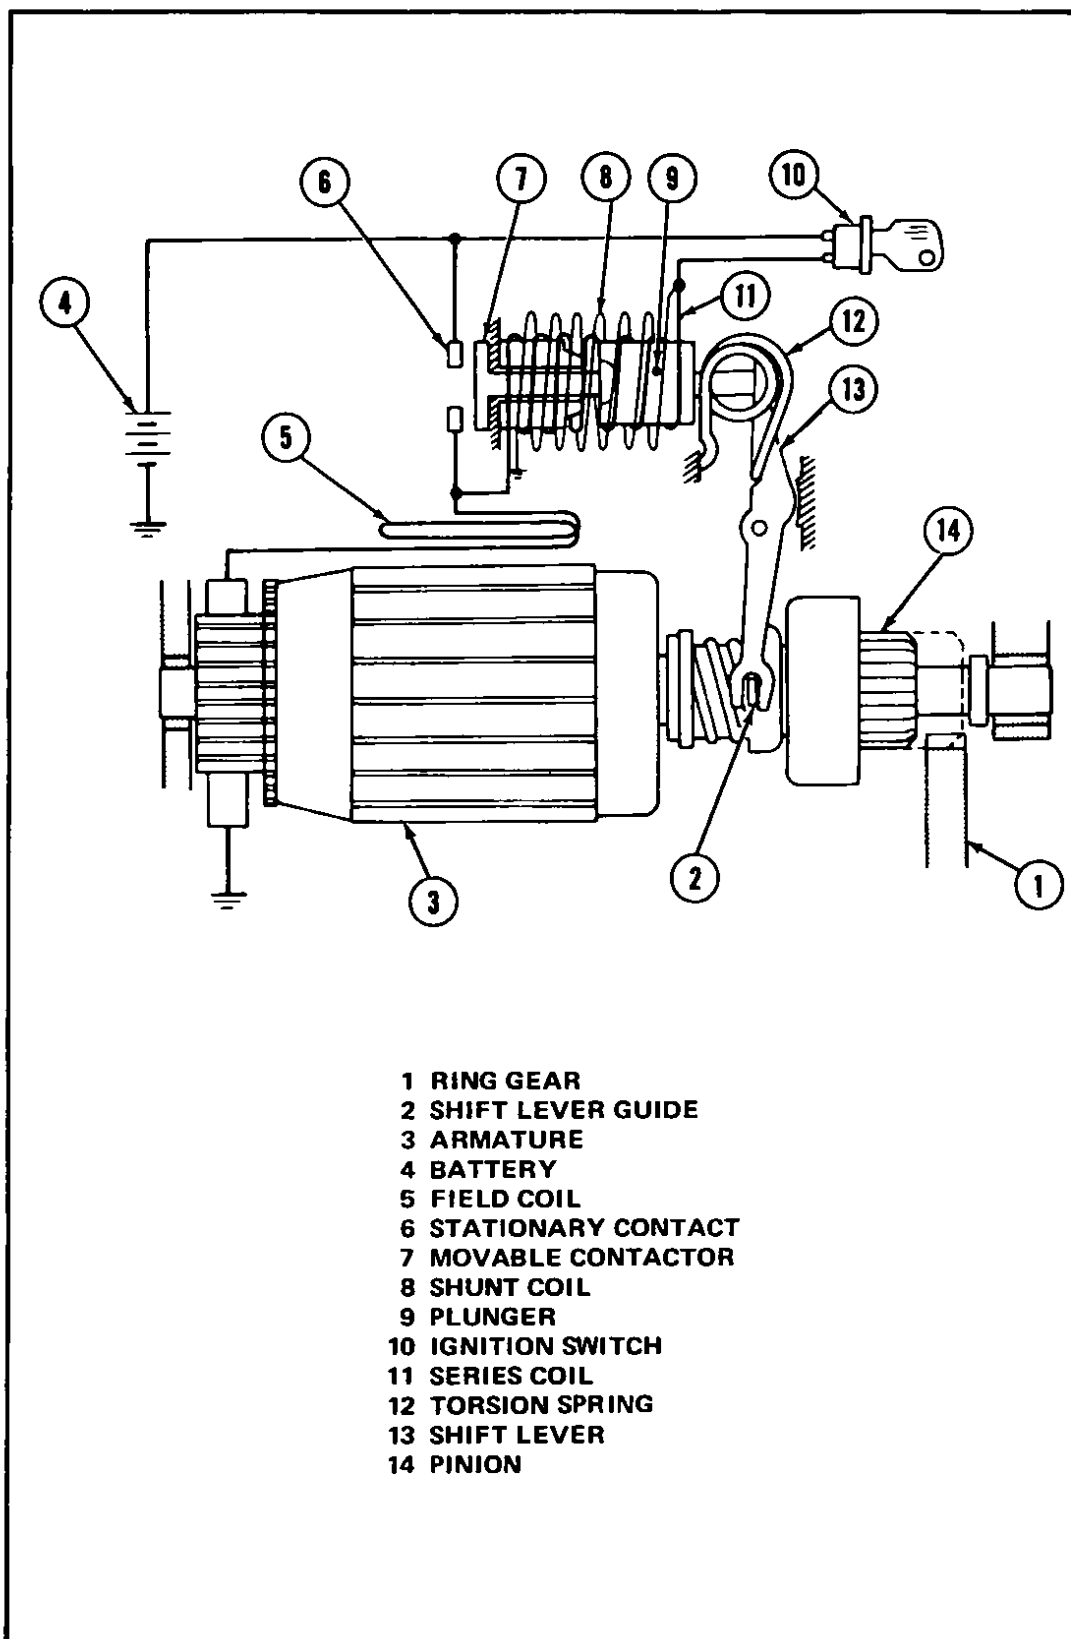

Fig 64 Starter motor circuit
- 2 Disconnect the black wire with a yellow stripe from the magnetic switch terminal. See Fig 64 for starting motor circuit.